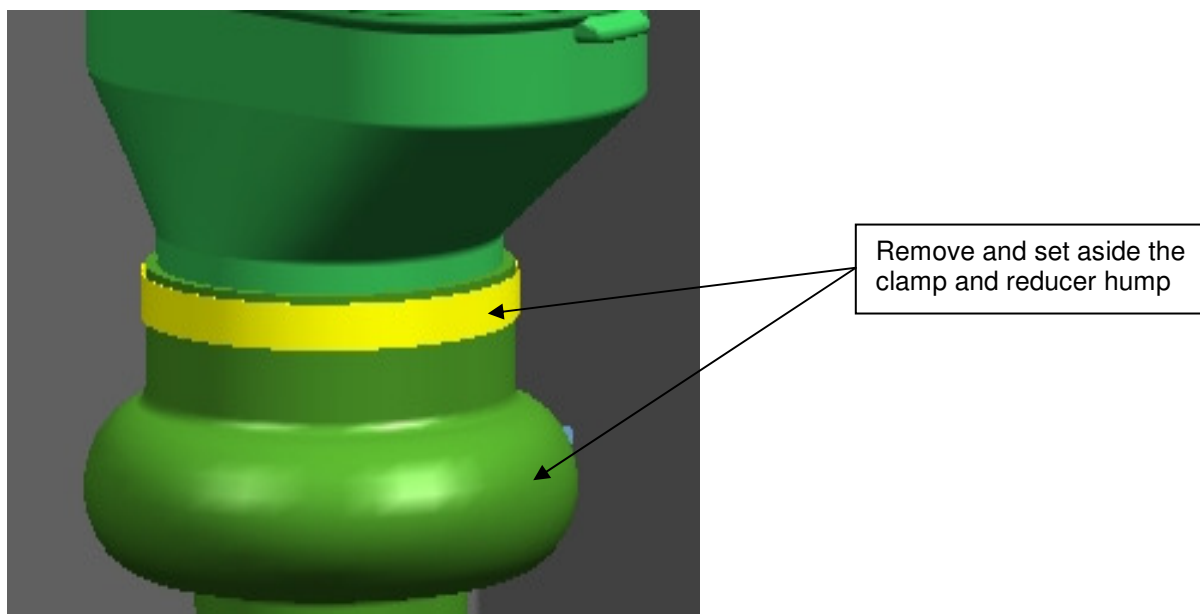

Figure 6: Silicone Hump Removal
14. Loosen the 7.62" T-bolt clamp between the air filter housing and the reducer hump. Remove T-bolt clamp and reducer hump and set aside for reuse later in this install. See figure 6.